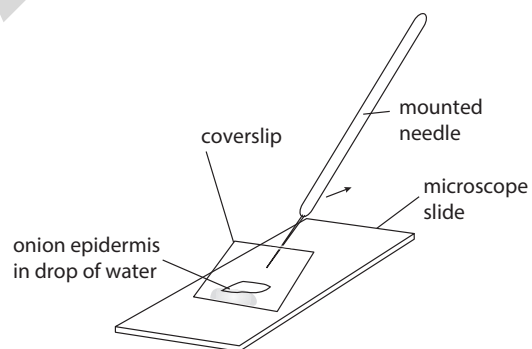

Figure 1.2
- Gently lower a coverslip onto the slide, to cover the onion epidermis. It's a good idea to use a mounted needle (see Figure 1.2) as this helps to avoid trapping any air bubbles.